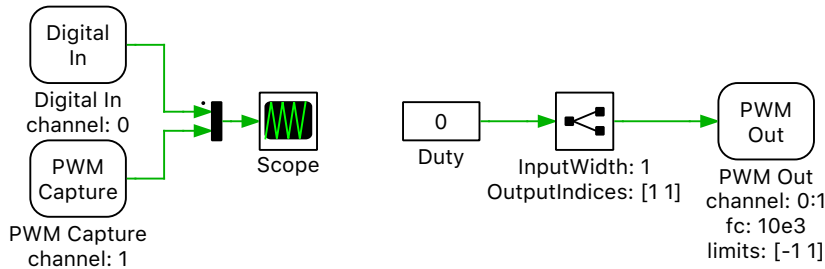

Figure 7: Comparing the Digital In and PWM Capture components
- 1** Create a new PLECS model and build the circuit shown in Figure 7. The circuit consists of a Digital In component assigned to channel 0 and a PWM Capture component assigned to channel 1.